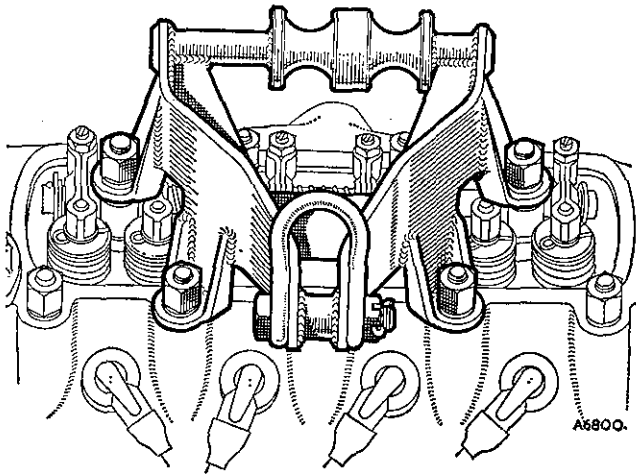

Fig. A.11
- (21) Remove the rocker cover nuts and fit the engine lifting bracket (Fig. A.11).
- (22) Drain the oil. Disconnect the drive shafts at the differential (Section G).
- (23) Support the sub-frame under both side-members and take the weight of the engine on the lifting equipment. Take out the two screws securing each engine mounting to the sub-frame.
- (24) Lift the engine out of the frame.
- (1) The engine and transmission assembly can be taken out through the bonnet aperture as follows:
- (2) Refer to Section A.12 and carry out instruction Nos. (1) to (5), (8) and (12) to (16).
- (3) Remove the windscreen washer bottle and bracket (if necessary).
- (4) Disconnect the drive shafts at the differential.
- (5) Disconnect the exhaust pipe from the manifold and secure the pipe against the bulkhead.
- (6) Remove the rocker cover nuts and fit the engine lifting bracket (Fig. A.11).
- (7) Take the weight of the engine on the lifting equipment and unscrew the two set screws securing each engine mounting to the sub-frame and lift out the engine.
- (1) Remove the radiator (Section C.3).
- (2) Support the engine with the attachment shown in Fig. A.11; use the central 'straight lift' position and take the weight off the mounting.
- (3) Remove the nuts securing the mounting bracket to the transmission casing and the two set screws securing the mounting to the sub-frame side-members; withdraw the bracket and mounting assembly.